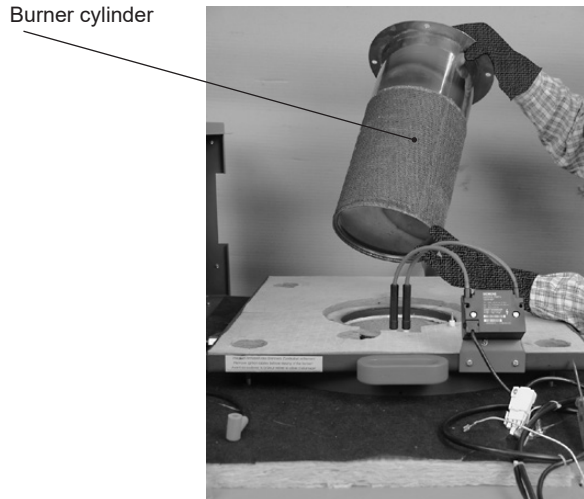

Fig. 50
- Remove the burner cylinder upwards (Fig. 50).